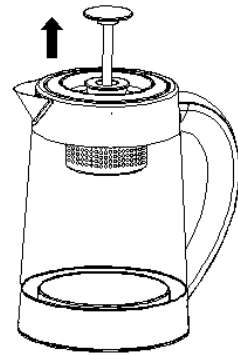

Fig. 8
2. After adding water, place the lid properly; lift up the tea bag Fig.8 after covering the lid and then place the kettle on the base; insert the power plug into the corresponding power socket and then the buzzer will beep twice and all indicators are on for one second, so the kettle is at the standby state if no any other operation.